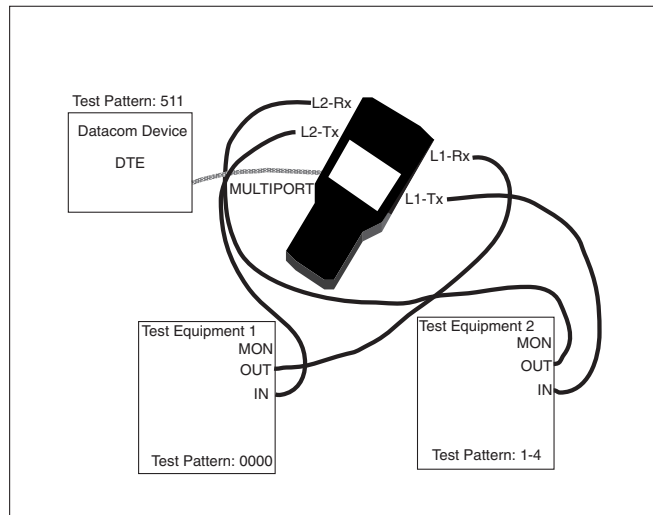

Figure 120 Emulating Add/Drop MUX
With reference to Figure 120, you should see the ALL ZEROES pattern on all timeslots. You have just verified the Line 1 signal is being received properly by the SunSet E20. Now you are ready to connect the test set to the Datacom device.
- 8) Connect the test set to the datacom device through the multiport. Refer to Figure 120.
- For Figure 120, you should see 511.